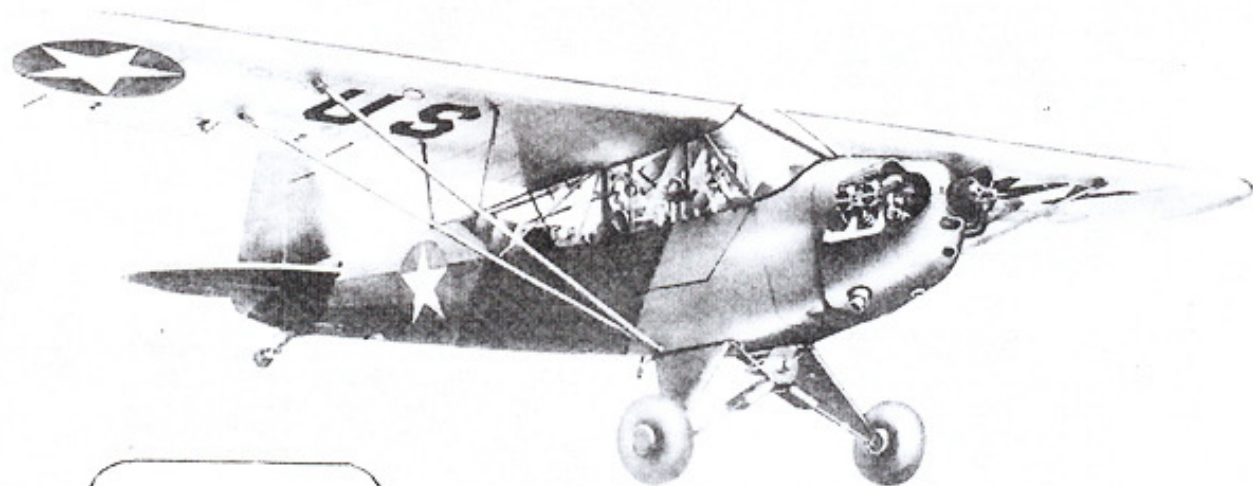

Figure 1 -
a. The models L-4A and L-4B Airplanes, manufactured by Piper Aircraft Corporation, Lock Haven, Pa., under contract W535 ac-24952 and ac-30126, are light monoplanes with high wings, externally strut-braced, with no wing flaps. The L-4B is similar to the L-4A, except that no radio or electrical equipment is installed. Provision is made, however, for a portable radio. The fuselage is a welded steel tubular framework, fabric-skinned. It is provided with seats for two crew members in tandem. The landing gear is of the fixed split-vee type, consisting of individually sprung wheels on which are mounted low pressure 8.00-x4-inch tires. The steerable tail wheel is mounted on steel spring leaves. Its solid rubber tire is 6 x 2.00 inches. The cockpit enclosure is covered with transparent sheets on the top and sides, from the windshield to a point approximately thirty inches aft of the wing trailing edge. (See figures 1, 2, 3, and 4.) The tactical mission of these airplanes is making short-range reconnaissance trips and acting as liaison agents for the use of ground commanders.
a. The model L-4A and L-4B airplanes may be taken off, flown, and landed in the manner of all conventional airplanes of this type. (See figures 1 and 2.) The flying characteristics of the airplanes are normal in all respects, there being no special features incorporated that would require special attention.